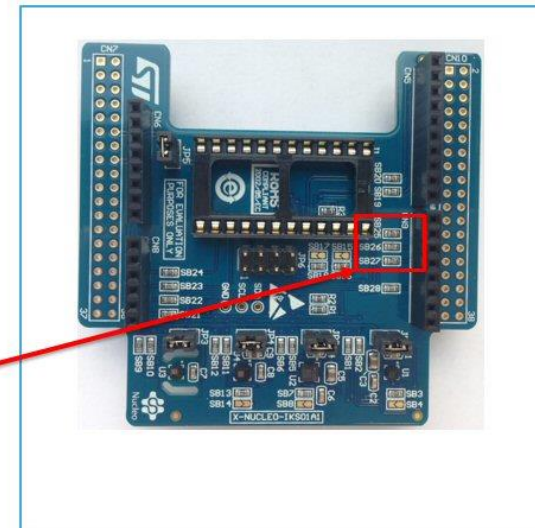

Figure 2 – Modifications on the X-NUCLEO-IKS01A1 board
- Before connecting the X-NUCLEO-IKS01A1 board with the X-NUCLEO-IDB04A1 (or X-NUCLEO-IDB05A1) expansion board through the Arduino UNO R3 extension connector, remove the three 0-Ohm resistors SB25, SB26 and SB27, as shown in Figure 2